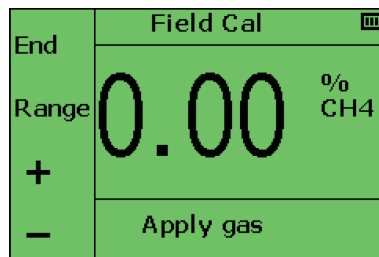

Figure 86: Field Calibration
- Once zeroing is complete, the monitor will display the main field calibration screen (as shown in Figure 86: Field Calibration).